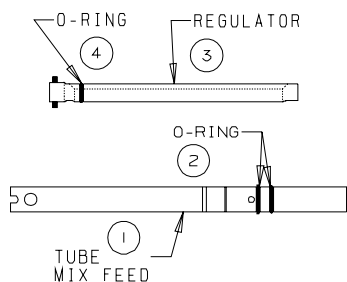

Figure 7-4
5. Remove the mix feed tube (figure 7-4) and mix float from the hopper.